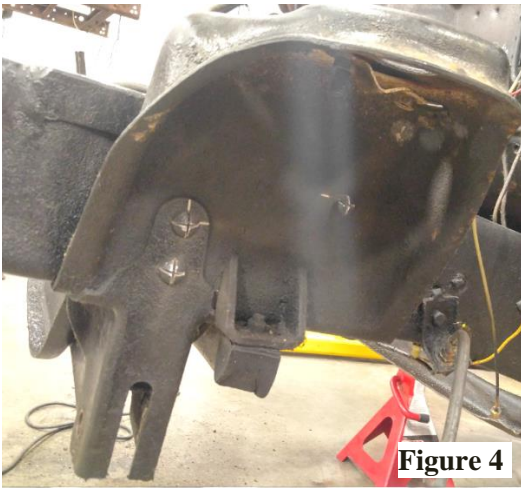
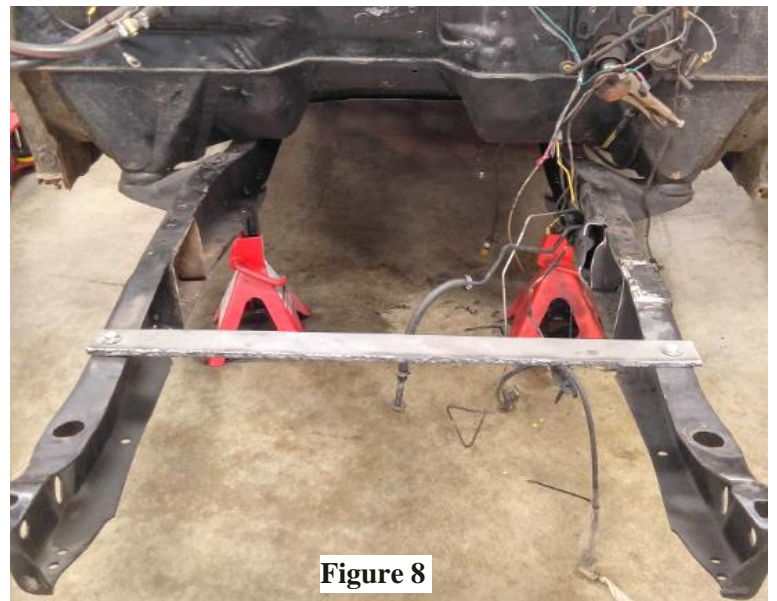

Figure 4
Figure 8
6. Slot and remove the rivets from spring pockets, I-beam mounts, engine cross-member, brake line support brackets, and cross-member at cab mounts (**Figure 4**). Do not remove any rivets supporting the cab mounts at the rear cross-member. There should be no rivets in the frame forward of the cab mounts when complete. (**Figure 8**)
8. All frame rivets from the cross-member at cab mounts forward should be removed at this time. (**Figure 8**)